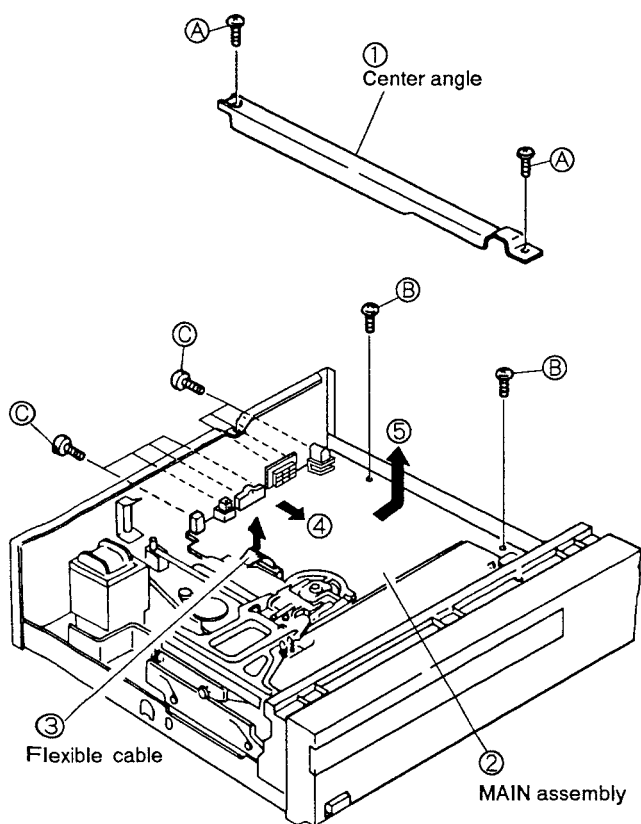

Fig. 7-4
7.3 REMOVING THE MAIN ASSEMBLY (Fig. 7-4)
- ① Remove two screws (A) to remove the center angle.
- ② Remove two screws (B) holding the MAIN assembly, and remove seven screws (C) on the sides of the rear panel.
- ③ Remove the flexible cable from the connector.
- ④ Pull the MAIN assembly in the direction of the arrow.
- ⑤ While sliding the MAIN assembly to the right, lift it upward in the direction of the arrow.